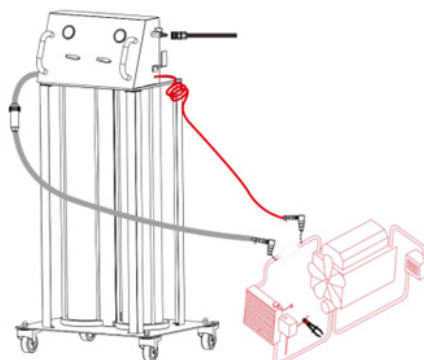

Fig 10.
1. Disconnect the upper radiator hose, select the appropriate size hoses and adapter steps, and connect them to the vehicle hoses. Connect the old fluid hose (clear) to the radiator side and connect the new fluid hose (red) to the engine side; (Fig. 10).